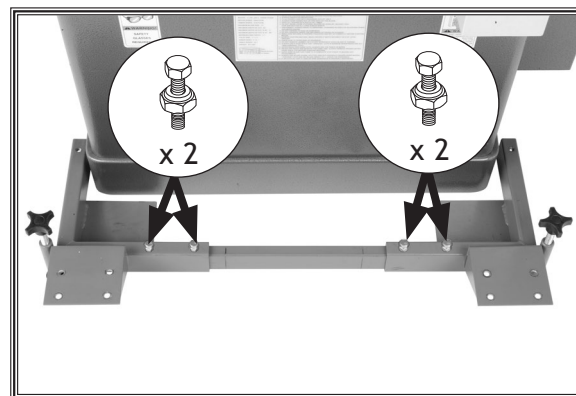

Figure 19. Rail secured to brackets.
6. Secure each end of the rails to the corner brackets with (2) M8-1.25 x 25 hex bolts and 8mm lock nuts, as shown in **Figure 19**.